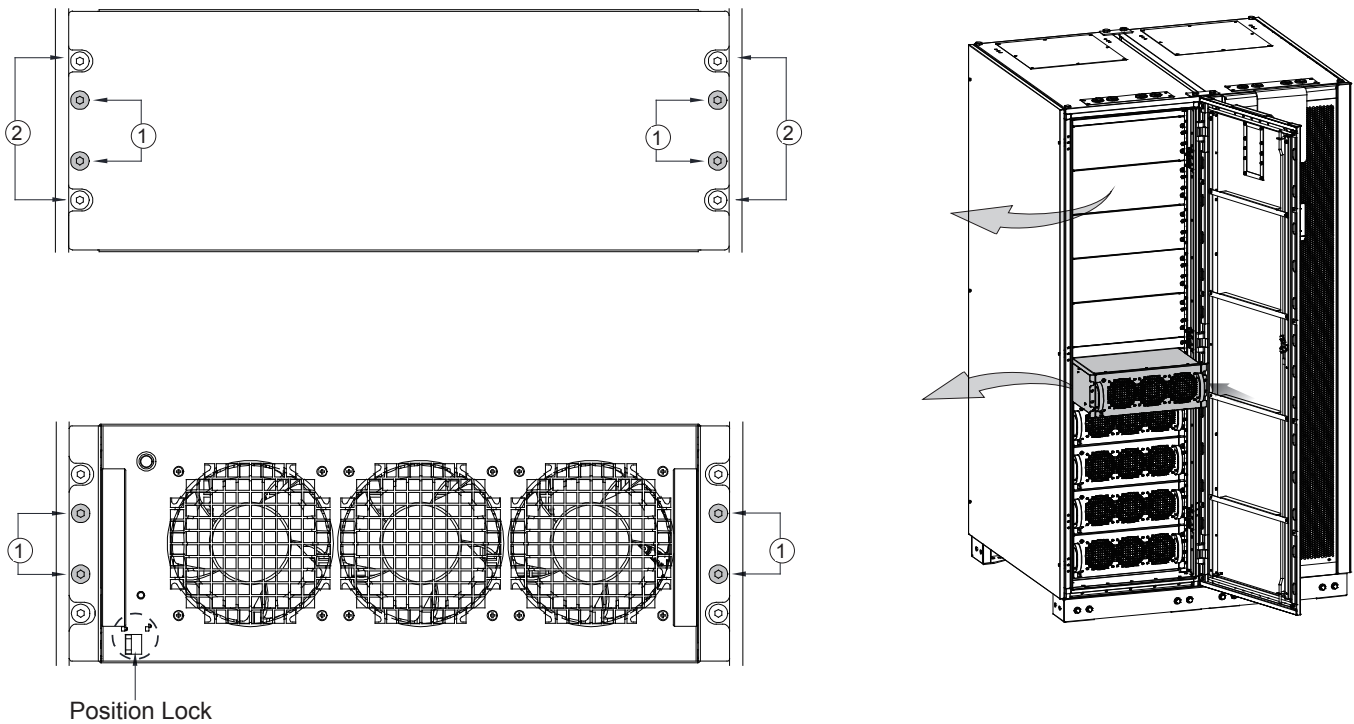

Figure 6-42: UPM Module Location
3. Take the UPS module out of the packing box; Check whether the lock on the front of the module is open“  “, if it is locked“  ”, please toggle it to the open state“  “, lift the module, insert it into the slot and push it (see Figure 6-42).
5. Install UPM screws ① .
6. Push the lock on the front panel of the module to the locked state“  ” (see Figure 6-42).